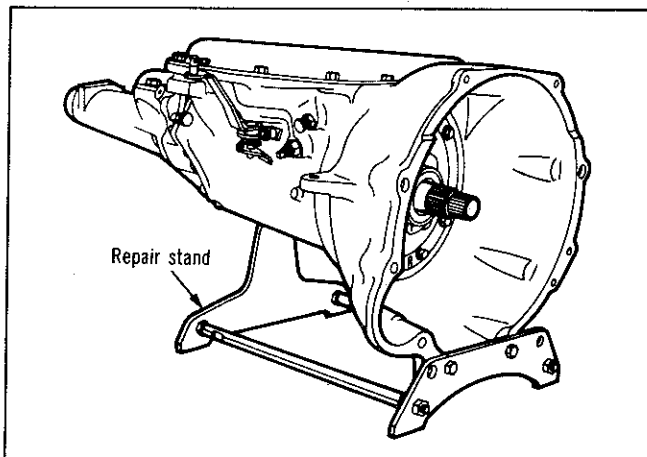

Fig. 33—Transmission installed in repair stand
(1) Place transmission assembly in repair stand, Tool E21C5C (Fig. 33).
(2) Unscrew oil pan bolts and remove oil pan and gasket.